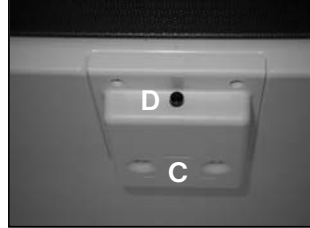

Figure 7.
8.1.2. Interior LED light (Fig. 7.) (uncooled compartment)